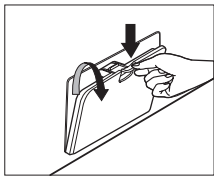

Fig. 16
- Open the service flap. (bottom right corner) Fig.16